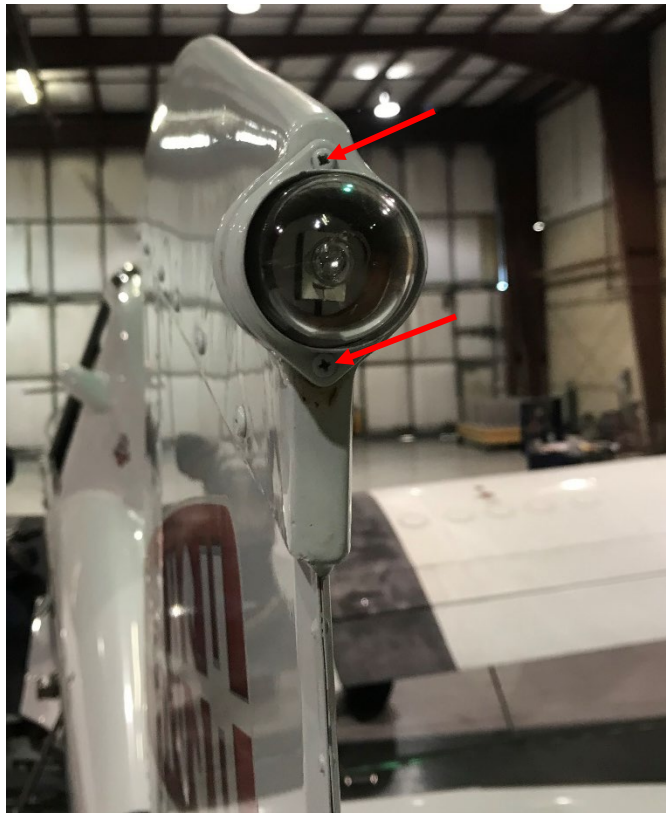

Figure 47-12
10. Remove light from aircraft by removing (2) screws. See Figure 47-12.